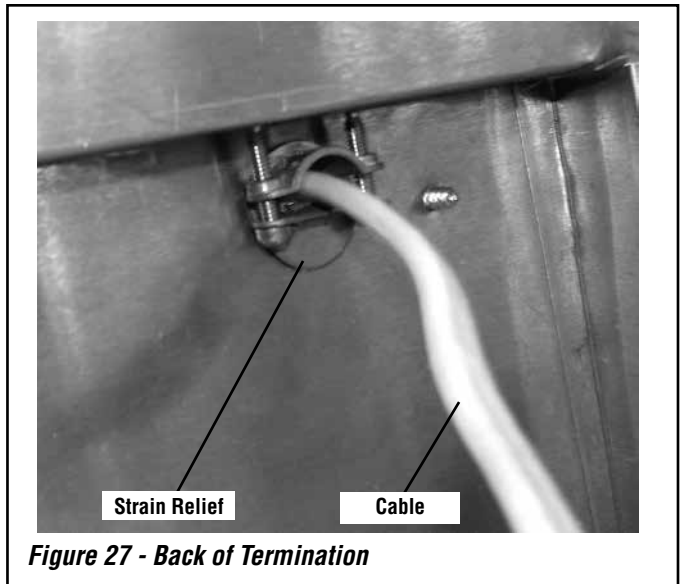

Figure 27 - Back of Termination
CAUTION: Ground supply lead must be connected to the wire attached to the green ground screw located on the outlet box. See *Figures 27 and 28 on Page 22*. Failure to do so will result in a potential safety hazard. The appliance must be electrically grounded in accordance with local codes or, in the absence of local codes, the (USA) National Electrical Code, ANSI/NFPA 70 - latest edition, or the Canadian Electrical Code, CSA C22.1 - latest edition.
- Refer to *Figure 27 on Page 22* and install the electrical hardware on the ends of the cable. Male terminals on the Black and White wires, and ring terminals on the ground wire.
- Loosen the strain relief on the termination shown in **Figure 27**. Pull the pigtail in and shorten it to fit within the junction box cover.